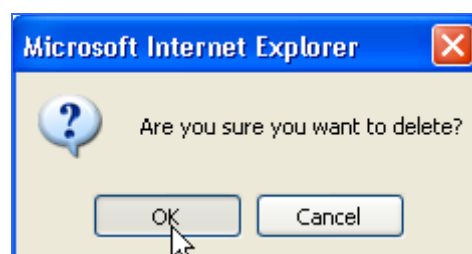

Figure 59 - Delete Package Confirmation
3. **To Delete:** On the right hand corner of the screen, click on “Delete” to delete the Fringe Benefit Package. Before the application deletes the package, you will need to confirm this action by clicking “OK” on the dialog box (Figure 59).